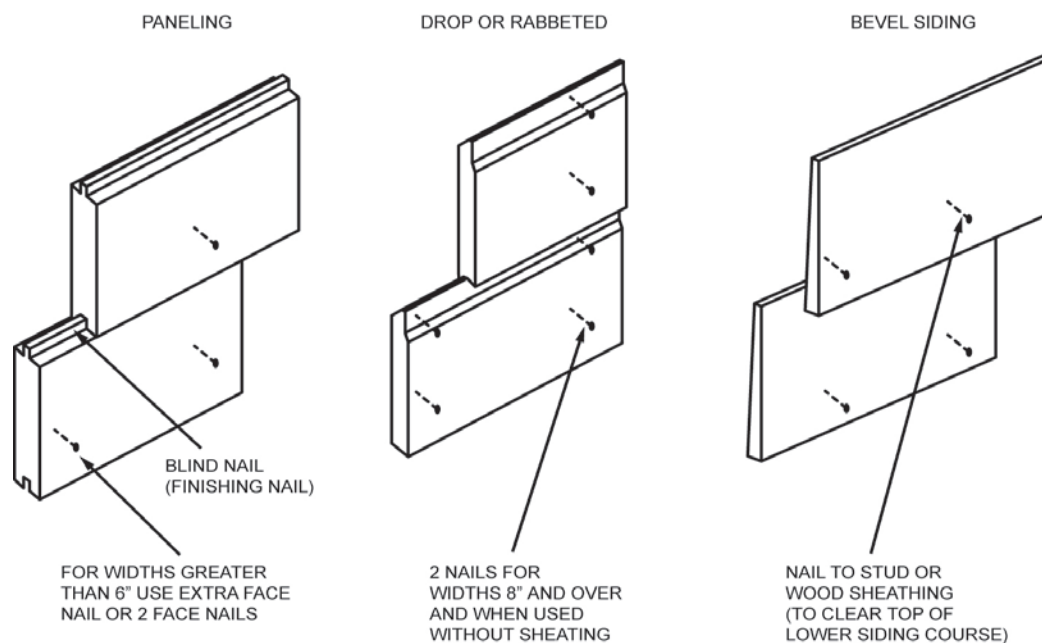

Figure 3-6. Nailing the siding.
**NOTE:** We install drop siding in much the same way as bevel siding except for spacing and nailing. Drop, Dolly Varden, and similar sidings have a constant exposure distance. Normally, we use one or two nails at each stud, depending on the width (fig. 3-6). The length of the nail depends on the type of sheathing used, but penetration into the stud or through the wood backing should be at least 1½ inches.